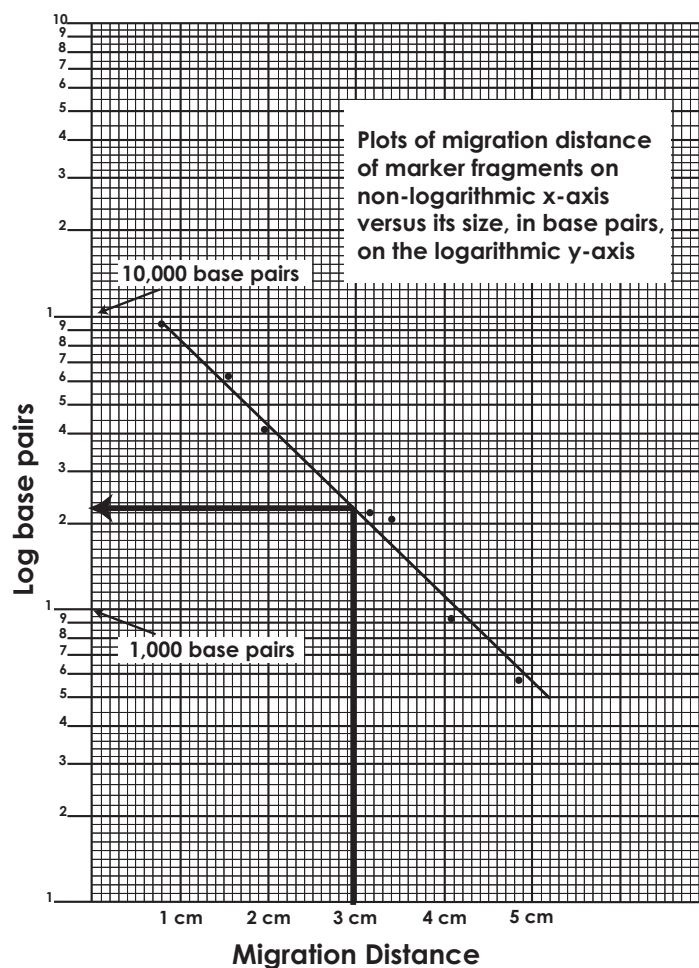

Figure 4: Semilog graph example
After all the points have been plotted, use a ruler or a straight edge to draw the best straight line possible through the points. The line should have approximately equal numbers of points scattered on each side of the line. It is okay if the line runs through some points (see Figure 4 for an example).
- From the point of intersection, draw a second line, this time horizontally, toward the y-axis. The value at which this line intersects the y-axis represents the approximate size of the fragment in base pairs (refer to Figure 4 for an example). Make note of this in your lab notebook.